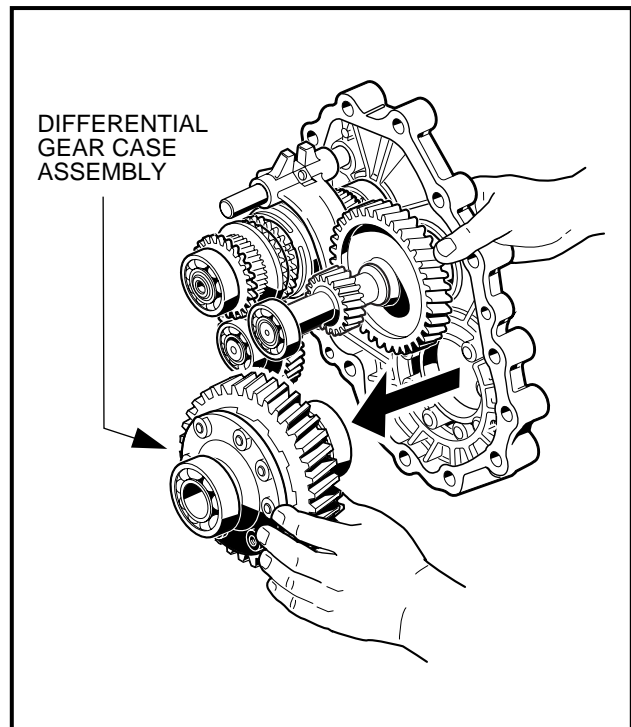

Figure 16-42 Remove Differential Gear Case
- When all the gear assemblies are slightly loosened, remove the differential gear case assembly by gently rocking it while pulling it from the case (**Figure 16-42, Page 16-17**).